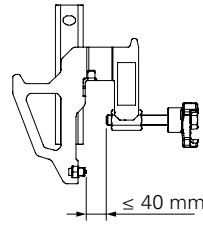

Fig. A2.09a
- Sheet piling thickness:  $\leq 40$  mm. (Fig. A2.09a)